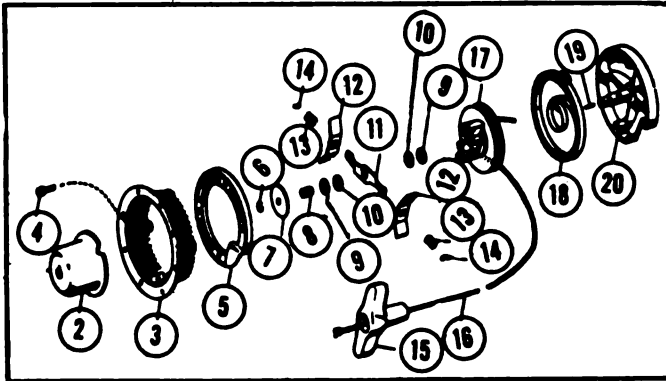

FIGURE 26 - STARTER PARTS (Reference numbers shown on Legend, Figure 32.)
(refer to Figure 26, below)
- 1) Loss of spring (Ref. 8, Fig. 26) can be avoided by holding washer (Ref. 7, Fig. 26) in position with the hand while removing Truarc retaining ring (Ref. 6, Fig. 26) with a screwdriver.
- 2) Remove the following parts and assembly: Large Washer (Ref. 7, Fig. 26); Spring (Ref. 8, Fig. 26); Washers (Ref. 9, 10, Fig. 26); Friction Shoe Assy. (Ref. 11, 12, 13, 14, Fig. 26); Washers (Ref. 10, 9, Fig. 26).
- 3) To prevent spring rotation of rotor (Ref. 17, Fig. 26) cord can be held while removing the 4 screws. Continue to hold assembly and remove flanges (Ref. 3, 5, Fig. 26). Now the tension on the rewind spring can be relieved by releasing hold and allowing spring to rewind.
When installing a new cord (Ref. 16, Fig. 26) in rotor (Ref. 17, Fig. 26) tie single knot in end.
Thread cord through rotor hole. Then wind rope on rotor. Replace handle (Ref. 15, Fig. 26) tying with a double knot.
Starting with the inside loop, remove Spring (Ref. 18, Fig. 26) from cover (Ref. 20, Fig. 26) by pulling out one loop at a time, holding back rest of turns. When replacing with new spring, note position of spring loop. Spring holders furnished with replacement springs simplify the assembly procedure. Place spring in proper position as shown with the outside loop engaged around the pin. Then press spring into cover cavity, thus releasing the spring holder. A few drops of SAE #20 or #30 oil should then be applied to spring and light grease to cover shaft.
- 1) Place rotor (Ref. 17, Fig. 26) complete with cord and handle, into cover (Ref. 20, Fig. 26) and hook inside loop of spring (Ref. 18, Fig. 26) to rotor with aid of screwdriver.
- 2) Replace the following parts and assembly: Washers (Ref. 9, 10, Fig. 26); Friction Shoe Assy. (Ref. 11, 12, 13, 14, Fig. 26); Washers (Ref. 10, 9, Fig. 26); Spring (Ref. 8, Fig. 26) Large Washer (Ref. 7, Fig. 26); Truarc Retaining Ring (Ref. 6, Fig. 26).
- 4) Holding cord, the following parts are replaced: Flanges (Ref. 5, 3, Fig. 26) and Screws (Ref. 4, Fig. 26)